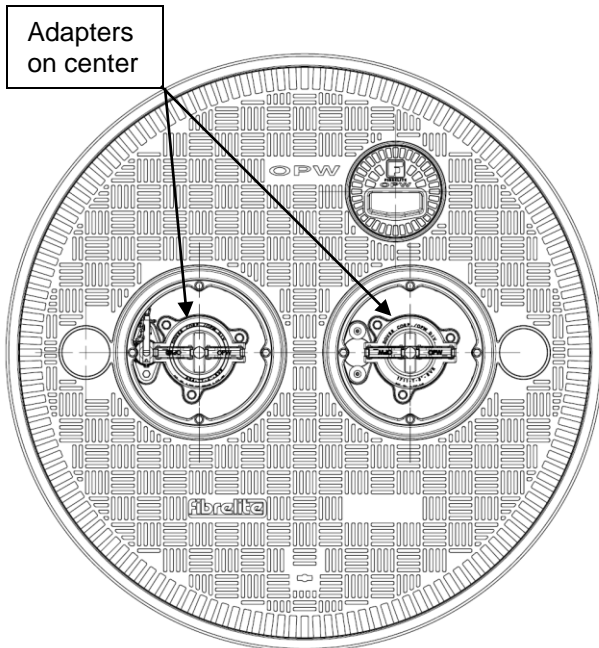

**Figure 28**
47. After the sumps have been installed and backfilled, the multiport or offset fill covers can be installed. The FL100F frame must be carefully installed to ensure the fill and vapor port openings will line up properly above the risers. In order to position the frame so that the centerline of the fill and vapor ports are positioned directly over the fill and vapor risers, the FL100F frame must be positioned so that that the centerline of one of the 15 flat facets on the frame is 180 degrees opposed from the point of the opposite facet (as shown in Figure 28). Also, the desired orientation of the observation port must be considered. If a sensor or other accessory in the sump needs to line up with the observation port there are two possible orientations available and the frame must be rotated to match accordingly.